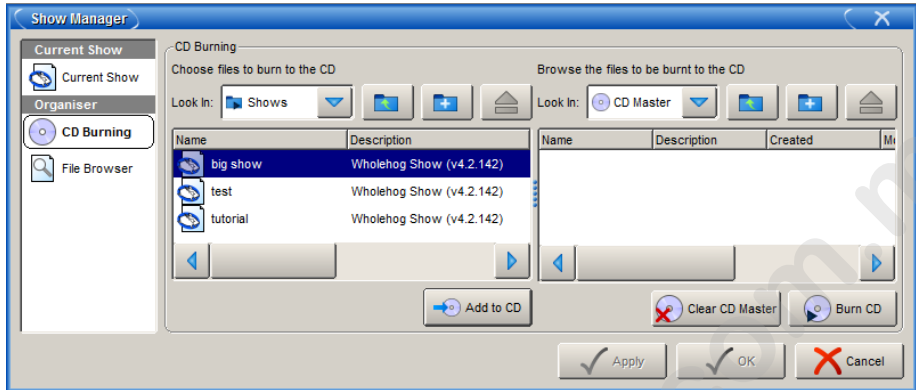

Figure 13.22. The CD Burning pane of the Show Manager window
1. Setup → Shows → CD Burning : see *Figure 13.22, "The CD Burning pane of the Show Manager window"*.